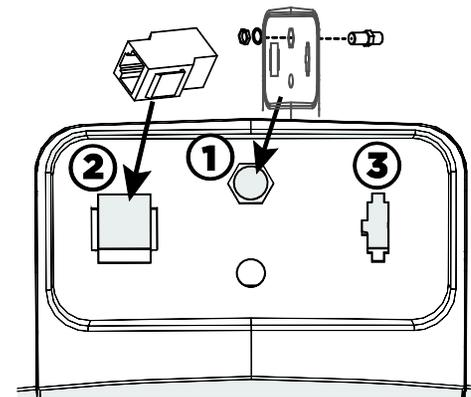

Figure 12
1. TV connection ①:
- a. Install the TV (coax) coupler, star washer, and nut, into the jack plate at the lower end of the AMT and tighten (see Figure 12).
2. Ethernet connection ②:
- a. Attach the Ethernet coupler into the jack plate at the lower front of the AMT (see Figure 12).
3. Console connection ③:
- a. Plug the console power cable into the jack plate (see Figure 12).